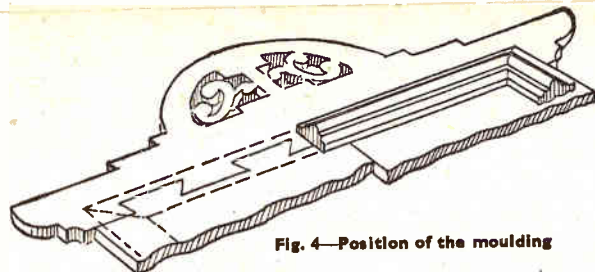

Fig. 4—Position of the moulding
detailed in Fig. 4. Care should be taken with the mitres of the corners. To complete the tablet, you should now glue and pin the overlays (D) and (C), and the cross, to the face of the upper rail. The positions of these pieces can be seen in the illustration overleaf.